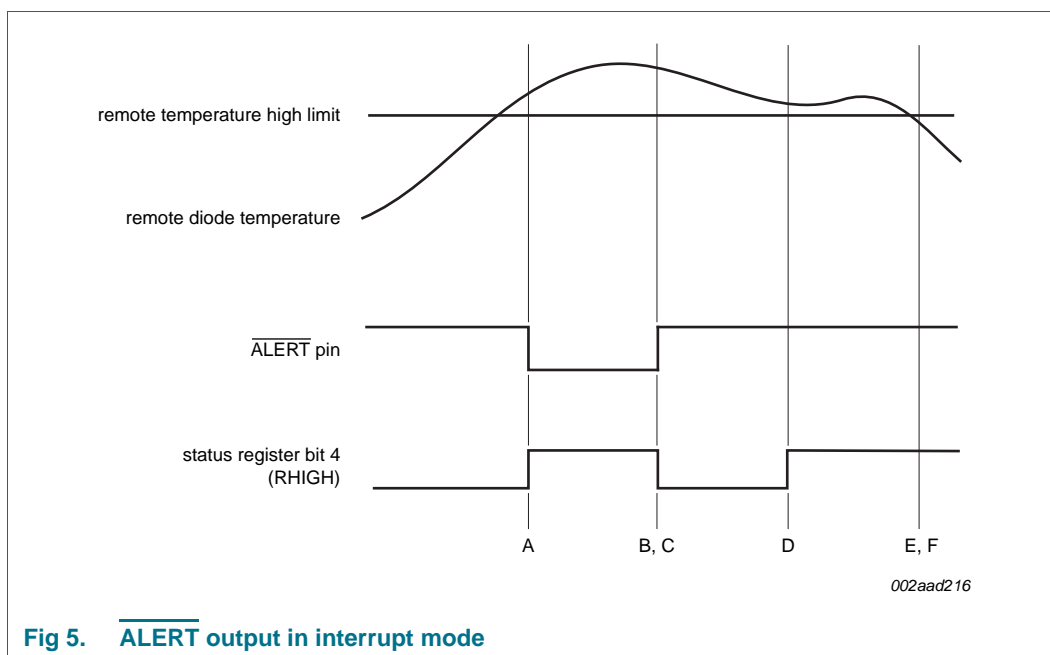

Fig 5. ALERT output in interrupt mode
In the interrupt mode, the $\overline{\text{ALERT}}$ output is used to provide an interrupt signal that remains asserted until the interrupt service routine has elapsed. In the interrupt operating mode, a read of the Status register will set the $\overline{\text{ALERT}}$ mask bit 7 of the Configuration register if any of the temperature alarm bits of the Status register is set, with exception of BUSY (D7) and OPEN (D2). This protocol prevents further $\overline{\text{ALERT}}$ output triggering until the master device has reset the $\overline{\text{ALERT}}$ mask bit at the end of the interrupt service routine. The Status register bits are cleared only upon a read of the Status register by the serial bus master (see Figure 5). In order for the $\overline{\text{ALERT}}$ output to be used as an interrupt, the ALERT Configure bit D0 of the ALERT Mode (AM) register must be set LOW (POR default).